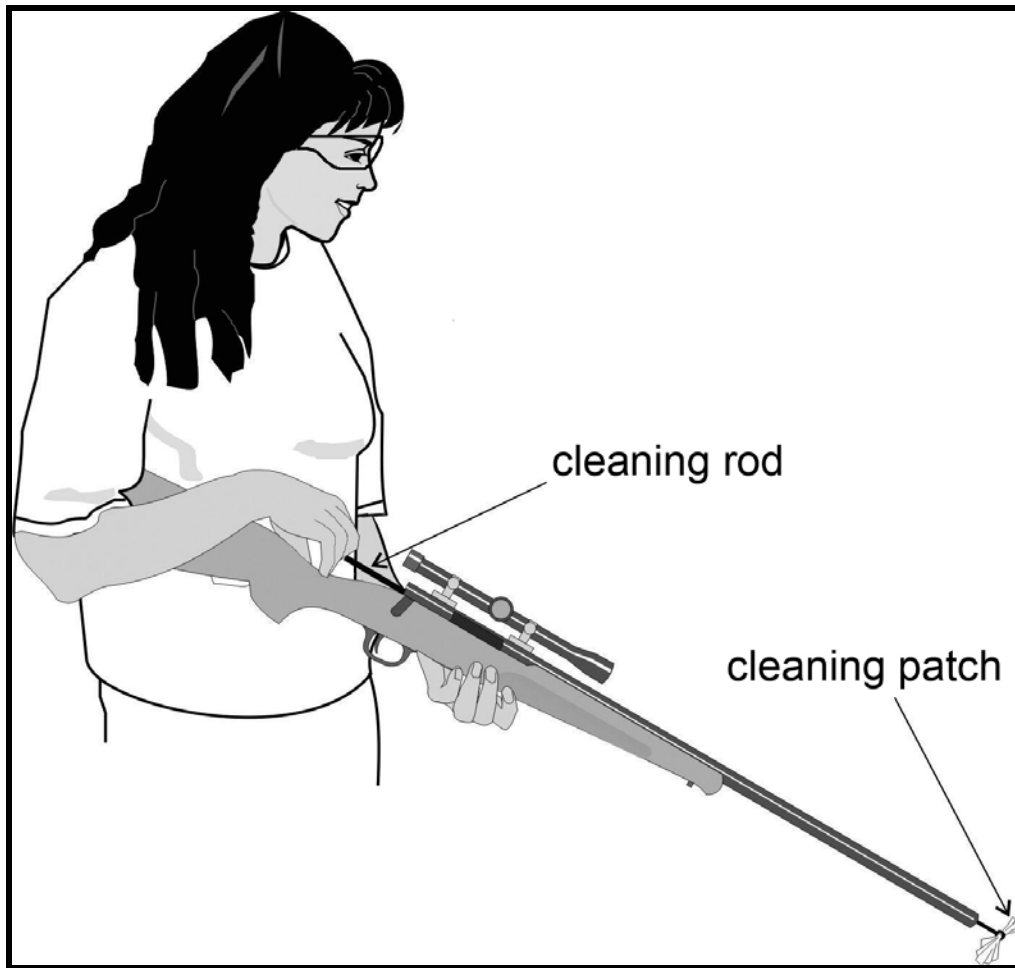

Figure 78. Cleaning a rifle barrel from the breech to the muzzle
- b. If possible, clean your firearm from the breech toward the muzzle. Avoid cleaning from the muzzle toward the breech (Figures 78 and 79).
3. Run the brush through the bore of the firearm barrel several times. Be sure that the brush sticks out from the barrel completely. Then, draw it back through the barrel (Figure 78).